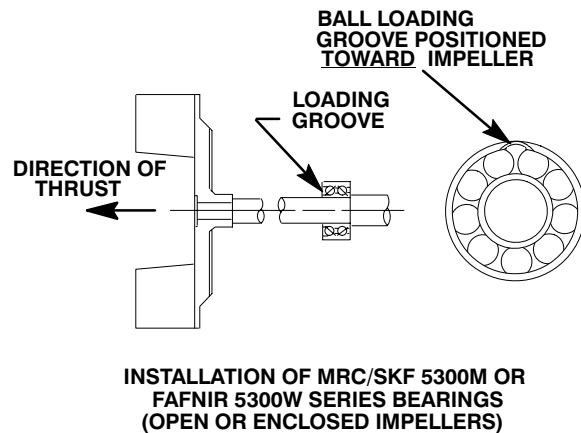

Figure 4. Inboard Bearing Positioning
Position the inboard bearing (47) on the shaft as indicated in Figure 4.